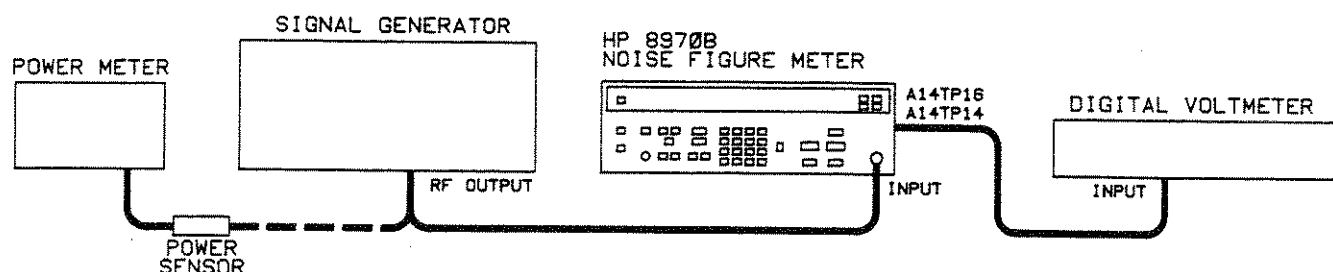

Figure 5-9. Input Power Detector Offset and Gain Adjustment Setup
5. Connect the equipment as shown in Figure 5-9.